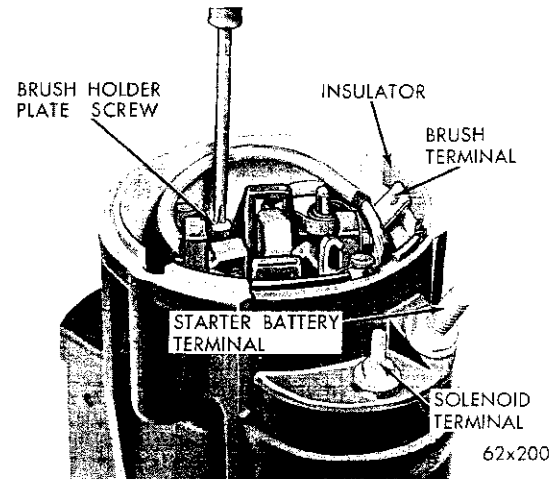

Fig. 22—Removing or Installing Brush Holder Plate Screw
- (6) Remove the brush insulator which prevents contact between the brush terminal and the gear housing (Fig. 22).
- (7) Remove the sealer at the brush holder plate and gear housing.
- (8) Remove the screw attaching the brush holder plate to the starter gear housing (Fig. 22).